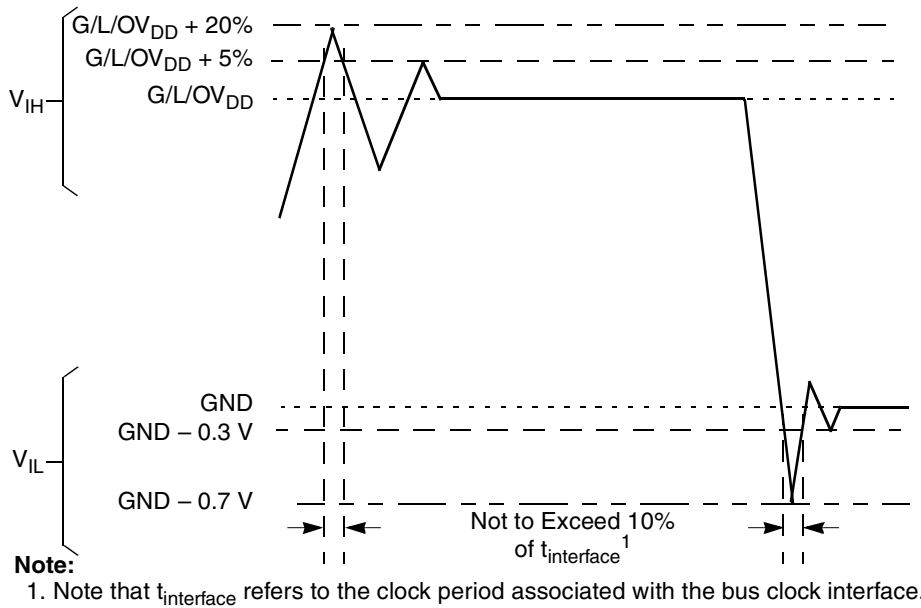

Figure 2. Overshoot/Undershoot Voltage for $GV_{DD}/OV_{DD}/LV_{DD}$
- (M,L,O) V_{IN} and MV_{REF} may overshoot/undershoot to a voltage and for a maximum duration as shown in Figure 2.
Figure 2 shows the overshoot and overshoot voltages at the interfaces of the device.